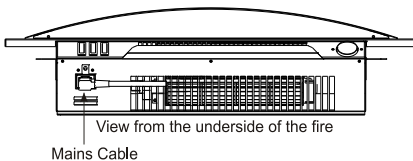

Fig 2
6. Connect the mains cord to the fire **Fig 2**
1. Fix the mains cable to the underside of the appliance. **Fig2**